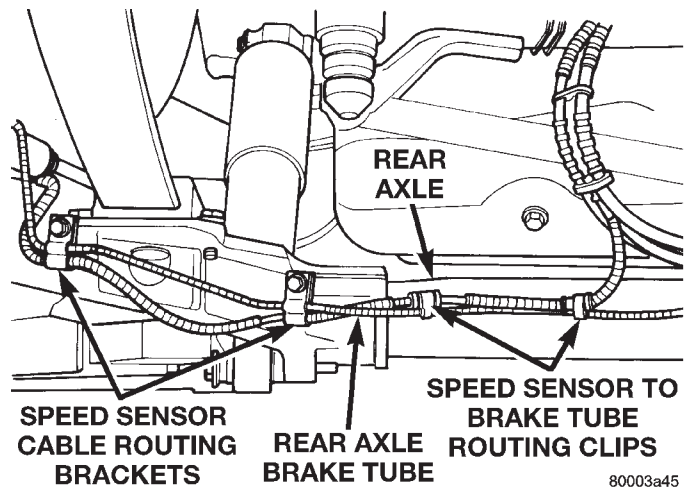

Fig. 41 Rear Speed Sensor Routing Brackets And Clips
(6) Remove the 2 rear wheel speed sensor cable/brake tube routing clips (Fig. 41). Then un-clip the speed sensor cable from the routing clips on rear brake tube (Fig. 41).